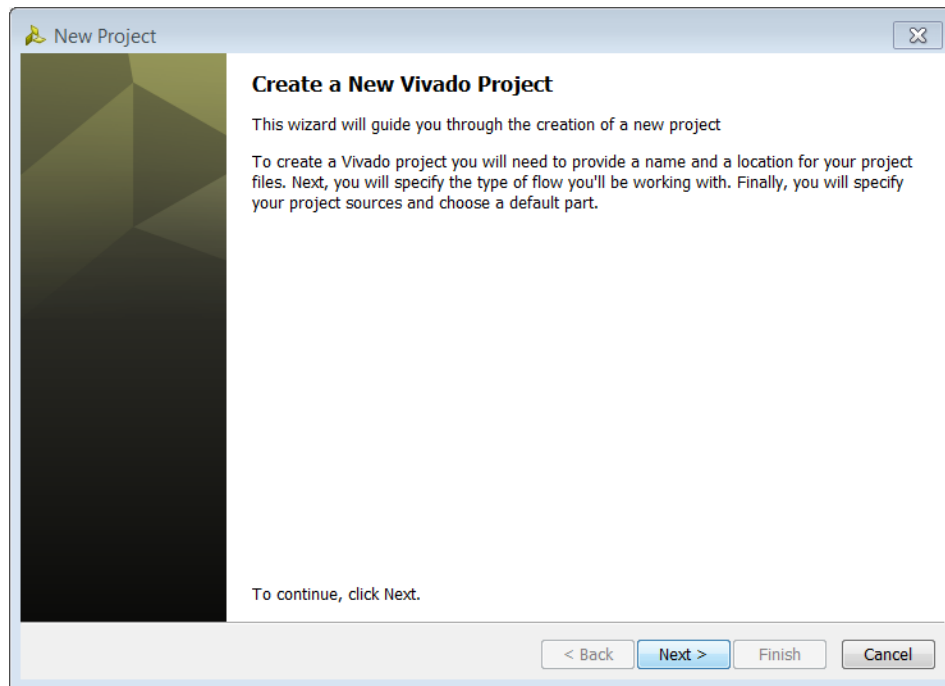

Figure 2: Create New Project Wizard
2. From the Getting Started page, select **Create New Project**. The New Project wizard opens (FIGURE 2).